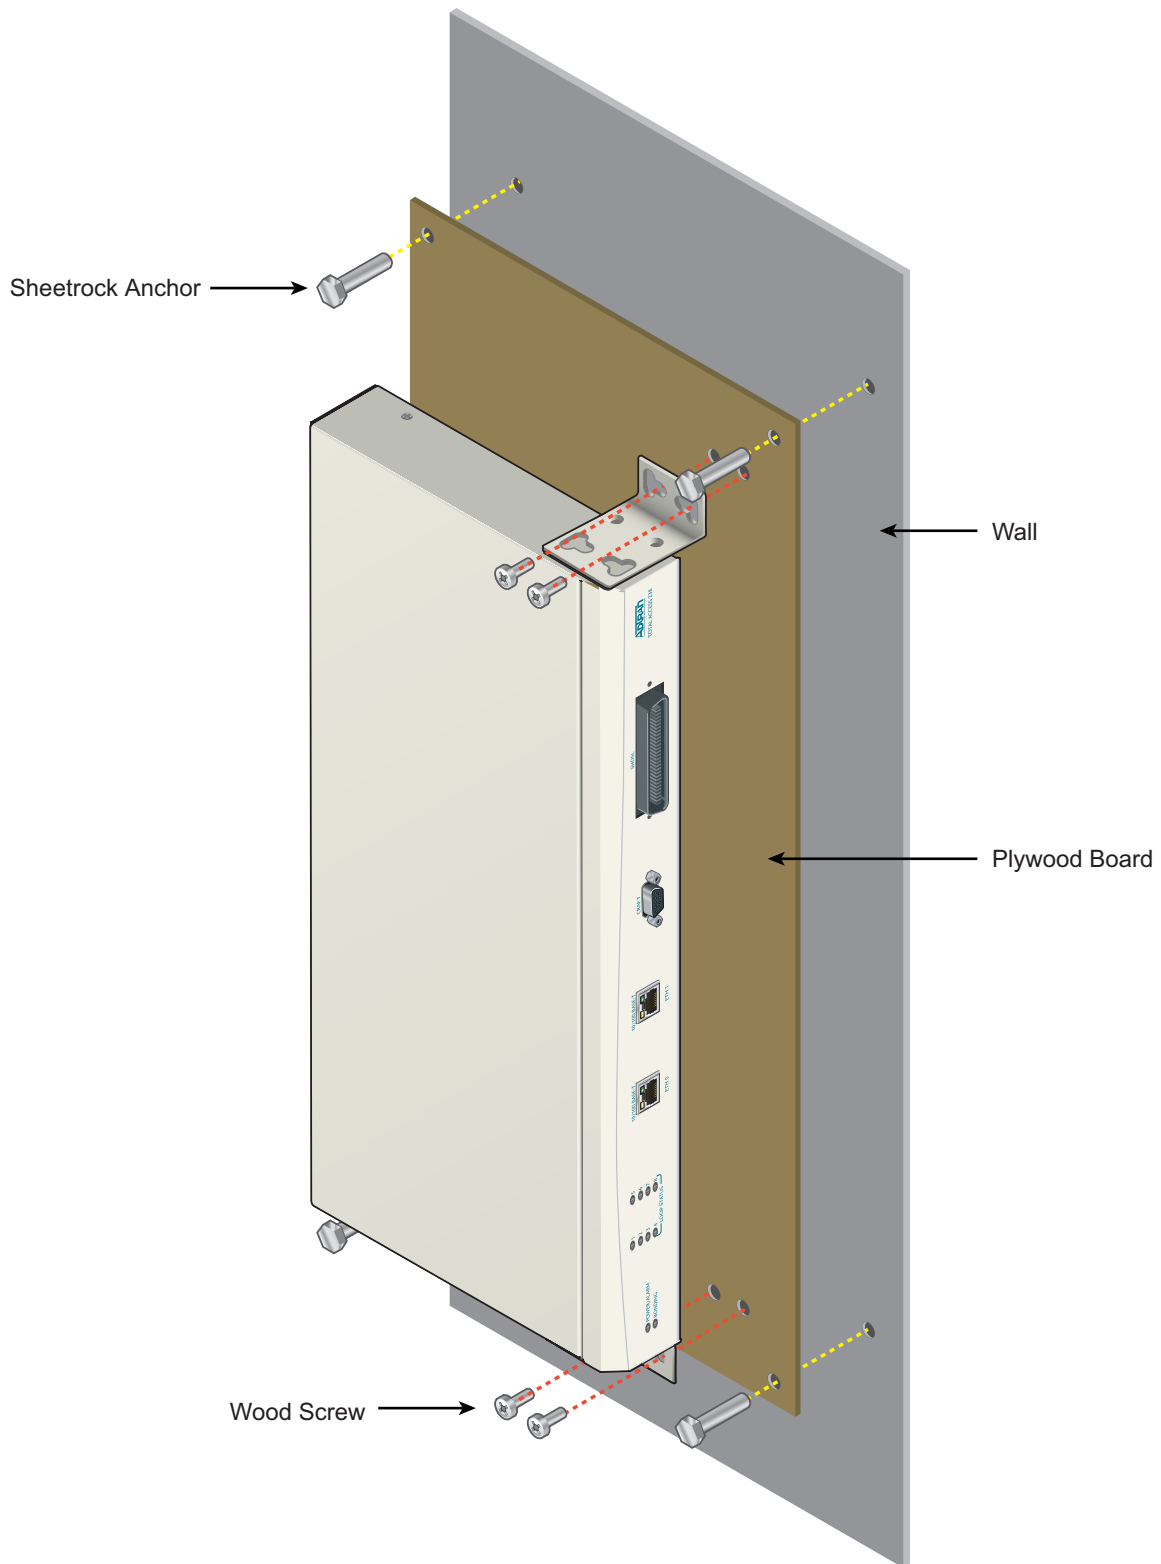

Figure 9. Wallmounting the Total Access 238
3. Hold the unit in position. Insert two 3/32-inch to 1/8-inch (1 1/2-inch or greater in length) wood screws through the brackets and into the mounted board (Figure 9).